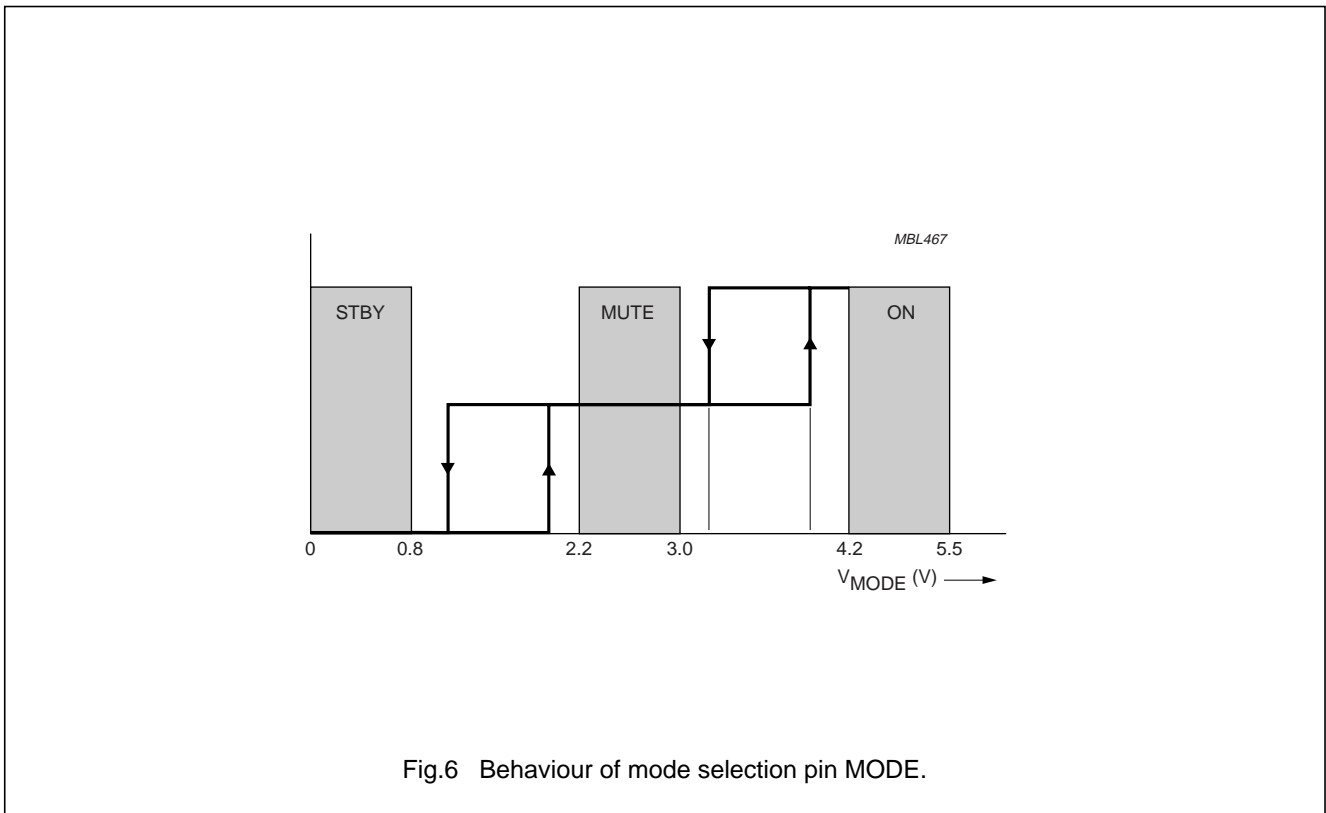

Fig.6 Behaviour of mode selection pin MODE.
3. The transition regions between standby, mute and operating mode contain hysteresis (see Fig.6).